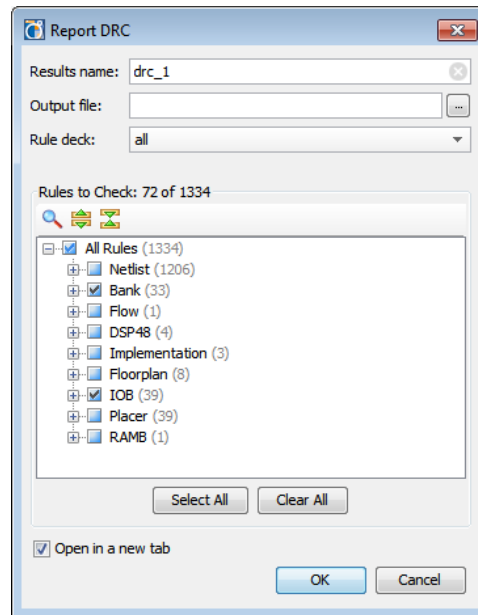

Figure 34: I/O Related DRCs
2. **Clear All**, then select to **enable Bank** and **IOB** rules as shown in Figure 34.